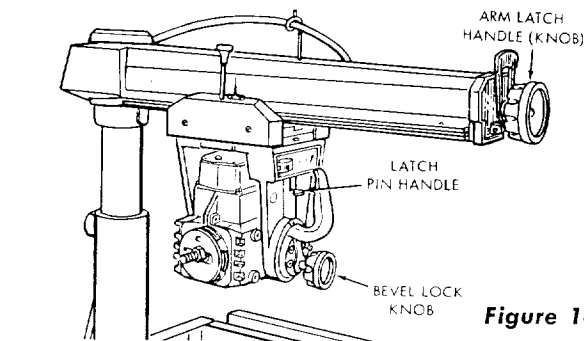

Figure 14
- Loosen the bevel lock knob and lift up on the latch pin handle. (See figure 14.)